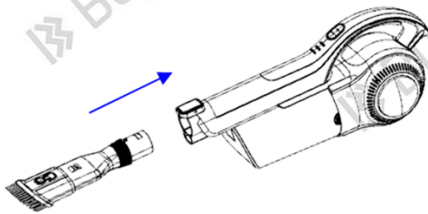

Fig. 9
- Oval brush 2in1 is suitable for cleaning furniture and upholstery. The disassembly and assembly method are the same as the motorized floor brush connection directly onto the main body (see figures 9 + 10 respectively).